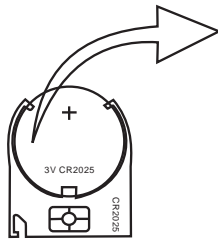

Fig.2
2. Replace the battery with a new CR2025(3V) button cell with the polarity marking upward as shown in Fig.2.